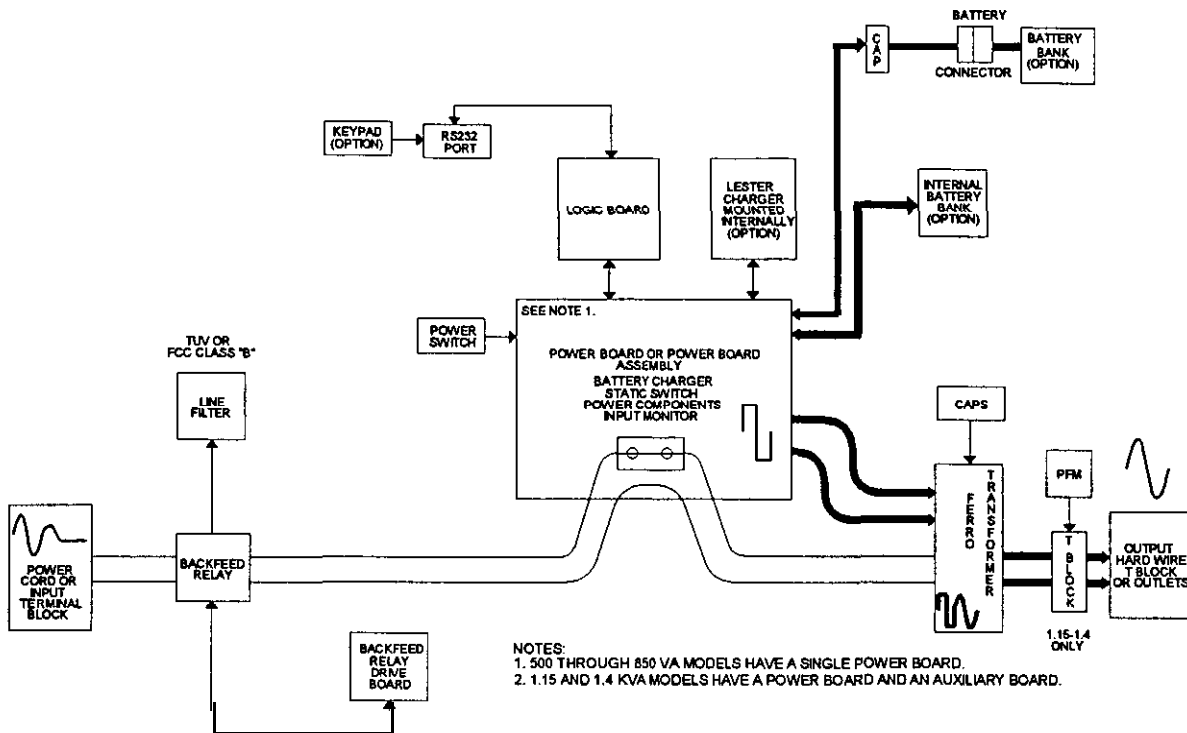

Figure 5
See **Figure 5** on the next page for a diagram of the FERRUPS during an AC utility line loss (power outage). When there is a power outage, or when AC line does not meet the minimum requirements set by FERRUPS parameters, the control electronics turn off the static switch. This removes AC line from the transformer's AC line primary. Before output voltage begins to decay, the inverter provides pulse-width modulated DC to the ferroresonant transformer's inverter winding. The ferroresonant transformer transforms the pulsed DC into a high-quality sine-wave output. The transfer process is complete within two (2) milliseconds or less, during which time the energy stored in the ferroresonant tank circuit supplies the full rated output power to the load.